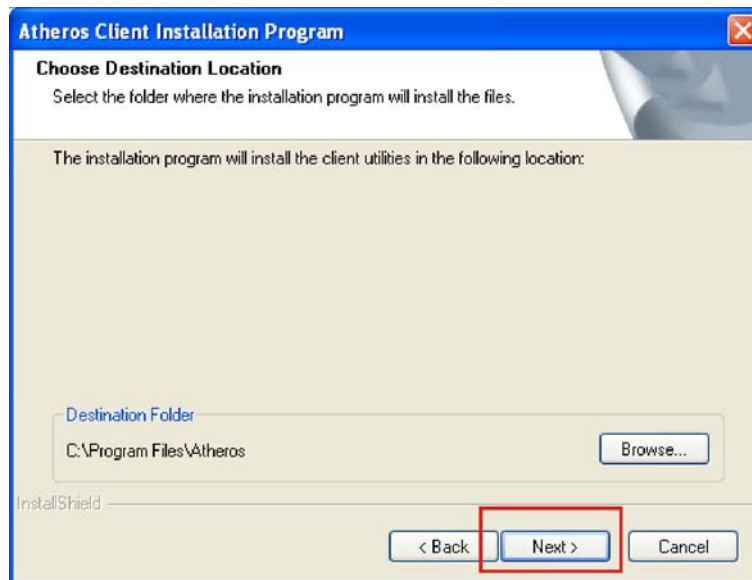

Figure 6-32: Choose Destination Location
Step 11: The **Choose Installation Location** screen appears (Figure 6-32).
Step 12: Select the installation directory (the default is recommended) then click **NEXT** to continue (Figure 6-32).